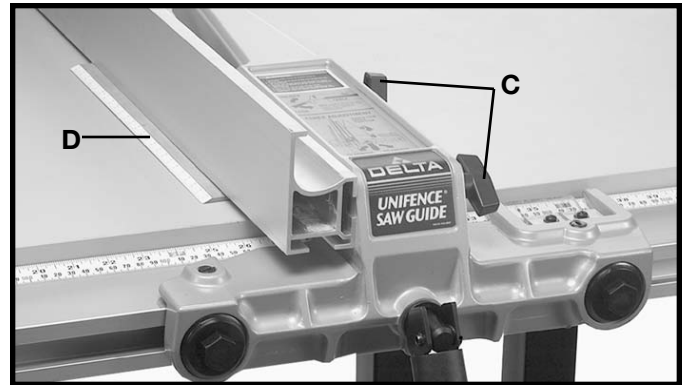

Fig. 72
2. For most normal ripping operations, the bottom of the fence should be positioned slightly above the table surface. Loosen two lock knobs (C) Fig. 72, and place a thin object such as a ruler (D) between the table and fence, as shown. Then tighten two lock knobs (C).